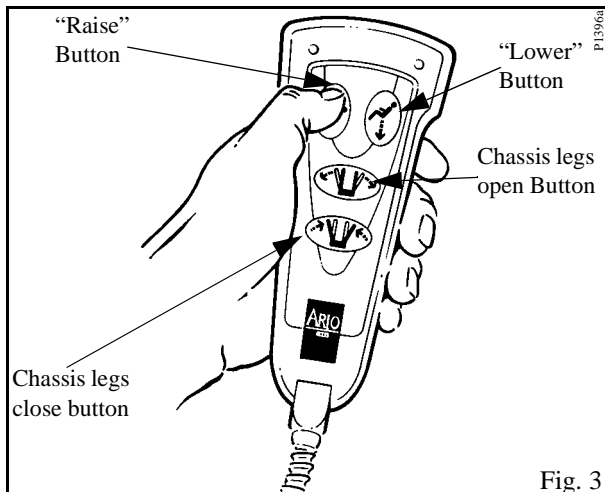

Fig. 3
**Control Handset:-** (see fig. 3) Raising and lowering the jib and opening and closing the chassis legs, is achieved by pressing the appropriate button on the control handset. Note: icons with direction arrows are printed on each button for quick reference.